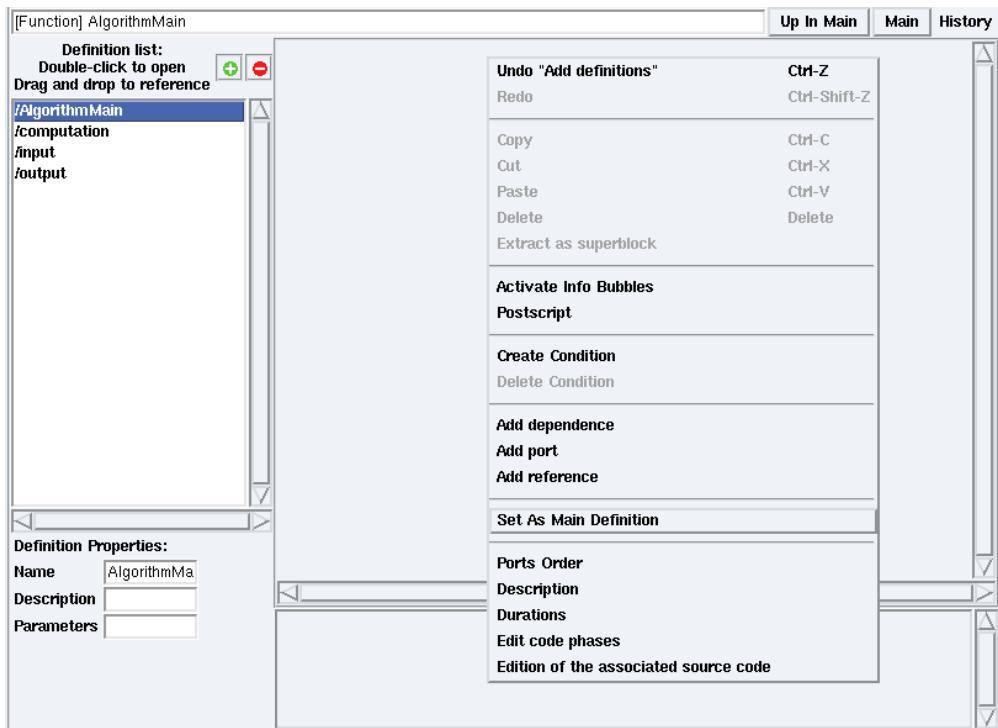

Figure 1.8: Contextual menu → Set As Main Definition
- double click on AlgorithmMain in the **Definition list**. Then right click on its background and select **Set As Main Definition** (*cf.* figure 1.8);